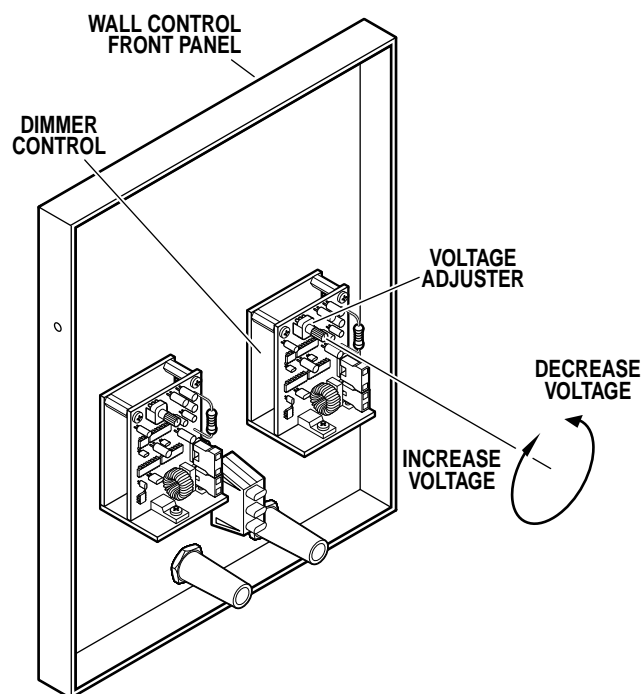

Figure 2-15. Voltage Adjustment
b. Adjust the voltage to the lighthead by turning the adjuster on the back of the appropriate dimmer control in the wall control. See figure 2-15.